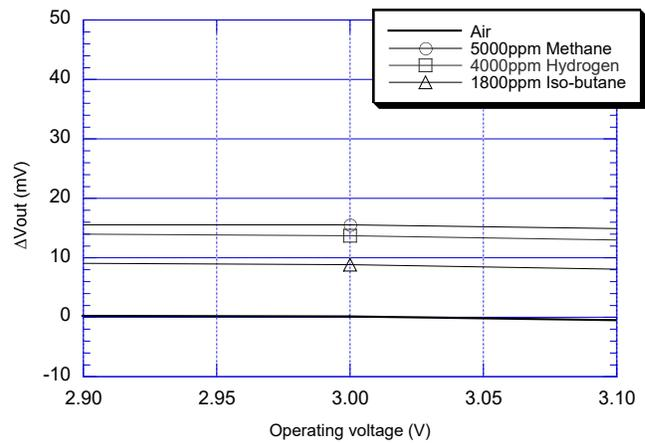

Fig. 7 - Heater voltage dependency
Figure 7 shows the change in the sensor output according to variations in the heater voltage (VH).